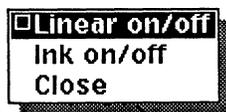

Figure 24-10. Linear on/off command
- ✓ Execute the **Linear on/off** command on the Draw popup menu (Figure 24-10).